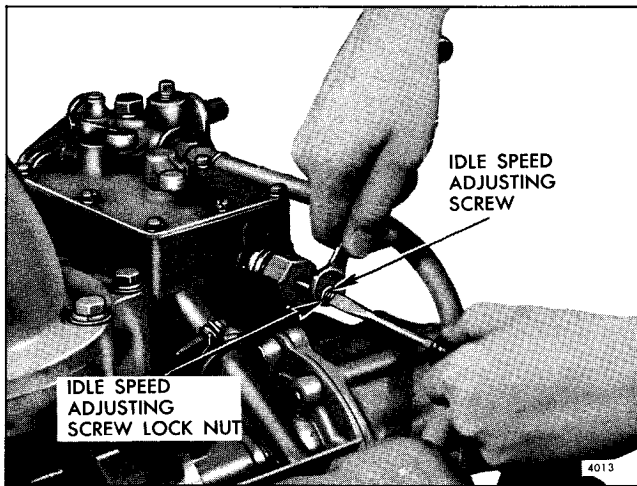

Fig. 6 - Adjusting Engine Idle Speed
1. With the engine running at normal operating temperature and with the buffer screw backed out to avoid contact with the differential lever, turn the idle speed adjusting screw (Fig. 6) until the engine idles at the recommended idle speed.